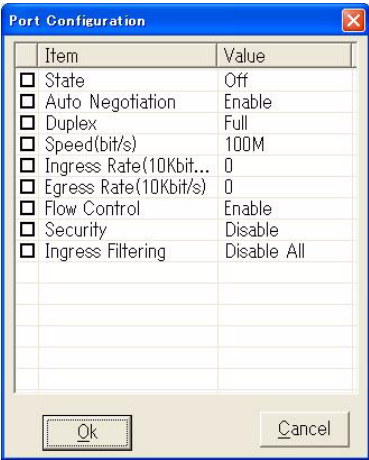
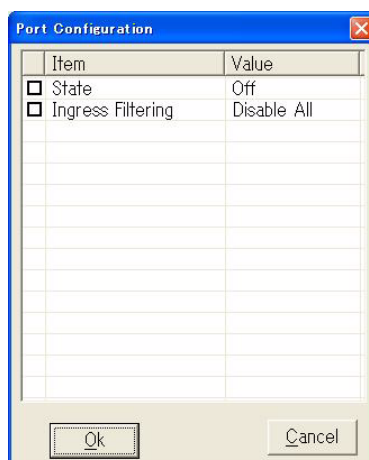

Fig. 4-4-36 LAN Port Configuration Dialog Box of FE
Fig. 4-4-39 WAN Port Configuration Dialog Box of FE & GE
- 5 Select one port by click then click **Set** button or double-click a port. The **Port Configuration** dialog box shown in **Fig. 4-4-36** to **Fig. 4-4-39** appears: